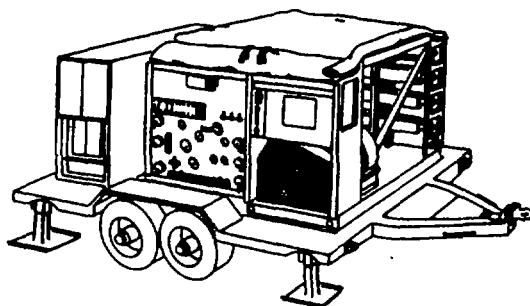
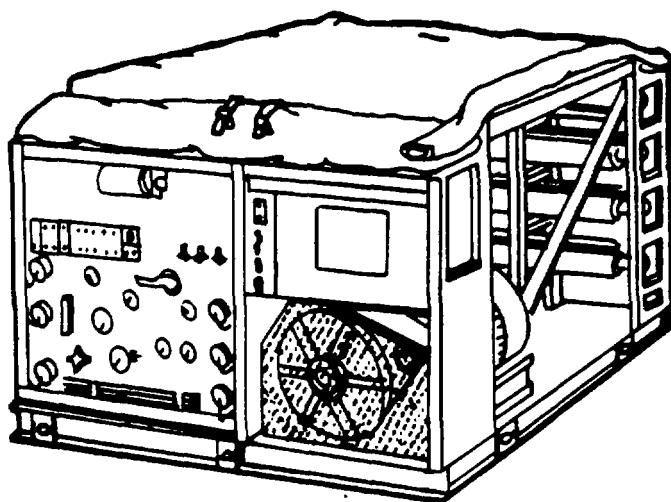

Figure 1-1. Reverse Osmosis Water Purification Unit (ROWPU) (Army)
Figure 1-2. Reverse Osmosis Water Purification Unit (ROWPU) (MC)
a. Characteristics. The ROWPU is a mobile water purifying unit needing a 30 kW power source, that supplies drinking water for troops in the field. (See fig. 1-1 (Army) and fig. 1-2 (MC)).
(1) Flow systems within the ROWPU process raw water to make it drinkable. Special pumps, controlled by a built-in control panel, move the water through the ROWPU to produce as much as 10 gallons (37.8 liters) of drinking water per minute. This water is stored in a collapsible tank that can hold up to a total of 1,500 gallons (5,670 liters) or 3,000 gallons (11,340 liters). The ROWPU can be transported by rail, road, or air.
(3) The Army and Marine Corps units are essentially the same except that the Marine Corps' ROWPU is mounted on a skid and does not incorporate a generator.